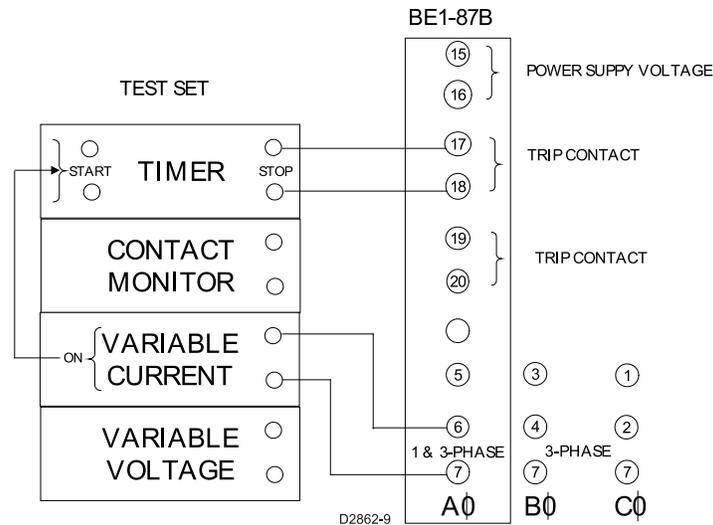

Figure 5-6. Trip Time Test Setup
- Connect the test circuit as shown in Figure 5-6. The test set timer should be set to start on the application of current and stop on trip contact (17 – 18) closure.
1. Change the jumper on the Control Board from position 1-2 to 2-3 (see the *Controls and Indicators* section). Connect the test circuit as shown in Figure 5-6. The test set timer should be set to start on the application of current and stop on trip contact closure.